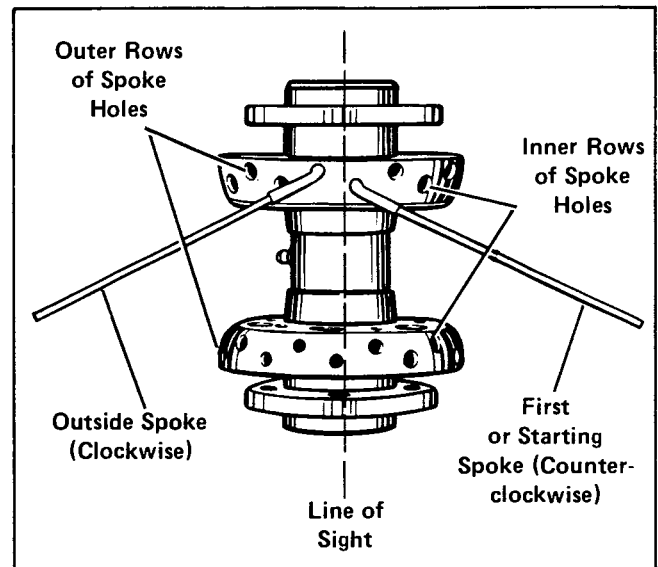

Figure 2A. Starting Spokes in Wheel Hub- Old Style.
See Figure 2A. Pick any outside spoke hole and sight straight across the hub. The first spoke hole to the right of the line of sight is an inside spoke hole.
LACING (Figures 2A and 3A)
2. Insert spokes in ten inner spoke holes of hub flange (see Figure 2A).